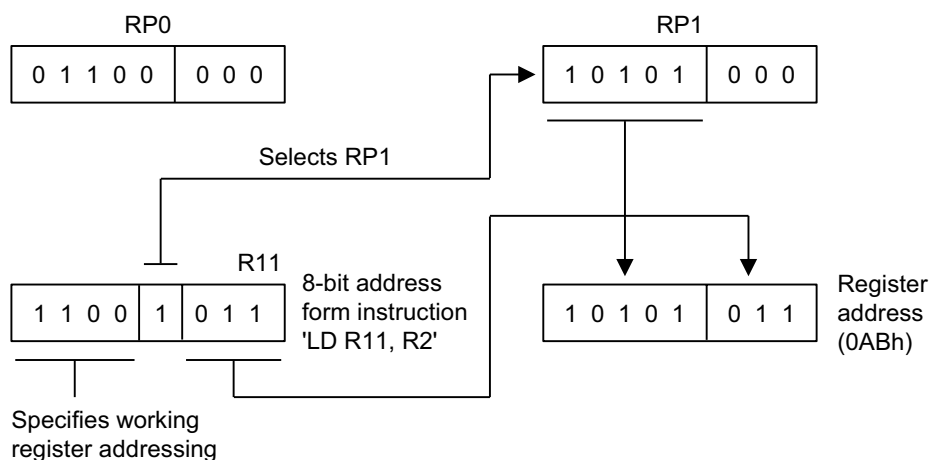

Figure 22. 8-Bit Working Register Addressing Example
Figure 22 shows an example of 8-bit working register addressing. The four high-order bits of the instruction address (1100b) specify 8-bit working register addressing. Bit 4 (1) selects RP1, and the five high-order bits in RP1 (10101b) become the five high-order bits of the register address. The three low-order bits of the register address (011) are provided by the three low-order bits of the 8-bit instruction address. The five address bits from RP1